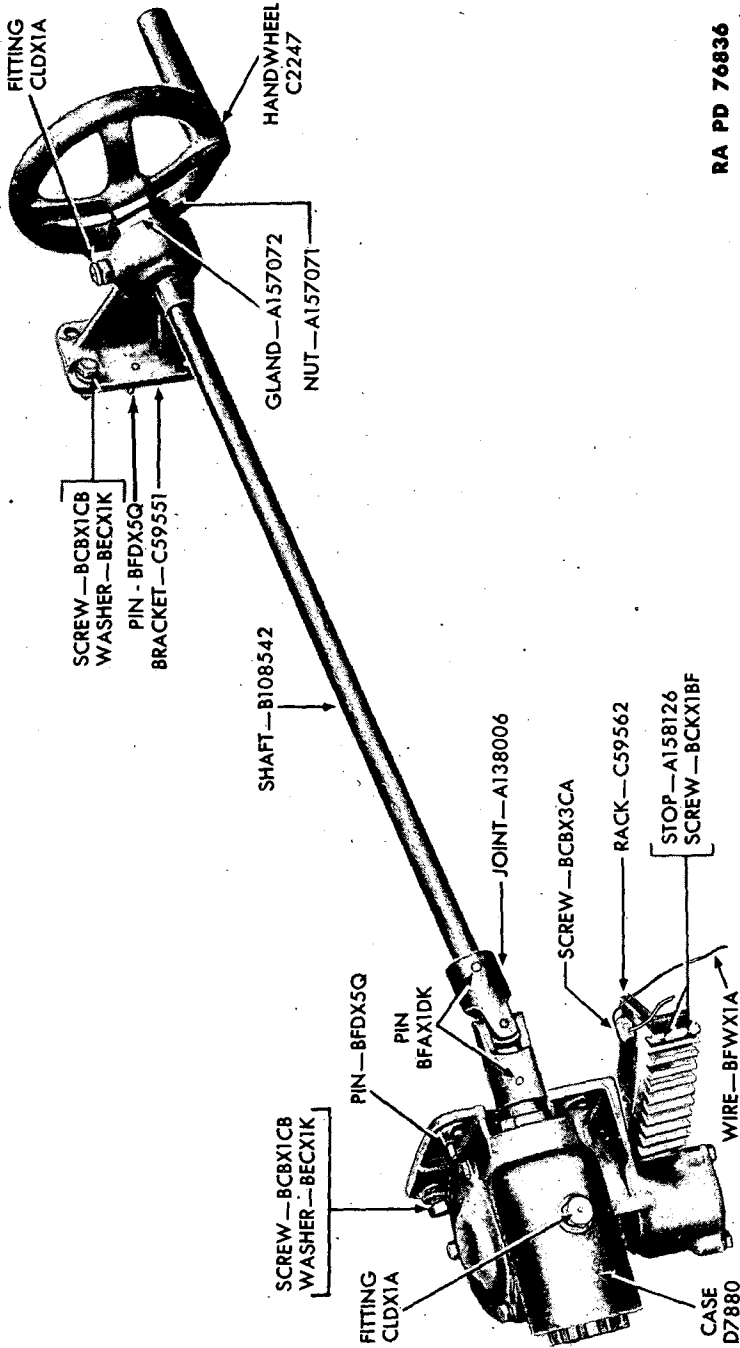
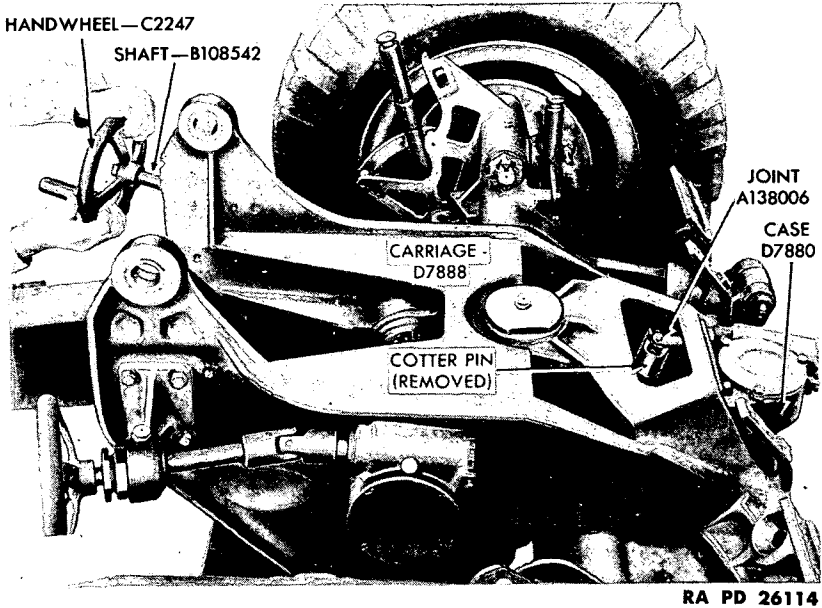

Figure 110—Traversing Mechanism Arrangement
Figure 111—Removing Traversing Handwheel Shaft
(1) The M3A3 Carriage has pintle traverse. The top carriage is traversed in the desired direction by means of the traversing handwheel located on the left side of the top carriage (figs. 73 and 110). The handwheel is mounted on a shaft that connects with a traversing gear case mounted at the front of the top carriage (fig. 111). In this gear case are a worm, worm wheel, and pinion. The pinion meshes with a traversing rack attached to the front of the bottom carriage (fig. 112). Stops are provided at each end of the traversing rack to limit maximum traverse (fig. 110). The rotating parts are mounted on oil-sealed antifriction bearings.
(2) The entire traversing mechanism can be removed from the top carriage without disturbing any other part of the carriage.
(a) Remove the cotter pin from the traversing handwheel shaft and rear half of flexible joint (fig. 111). Then pull the handwheel and shaft back out through the handwheel shaft bracket. *NOTE: The flexible joint will remain on the traversing worm shaft.*
(d) Remove the four screws and washers that fasten the traversing handwheel shaft bracket to the left side of top carriage. Remove traversing handwheel shaft bracket assembly with two dowel pins from top carriage (fig. 110).
(d) Insert the end of the traversing handwheel shaft into rear section of flexible joint and secure with cotter pin (fig. 111).